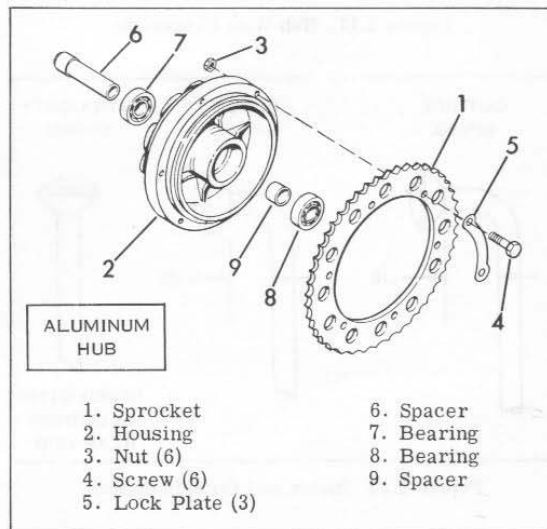

Figure 2.10. Removing and Installing Rear Wheel Sprocket Assembly - Aluminum Hub
Detach sprocket (1), Figure 2.10, from housing (2) by removing nuts (3) and screws (4). Uncrimp lock plate (5) tabs prior to removing screws.